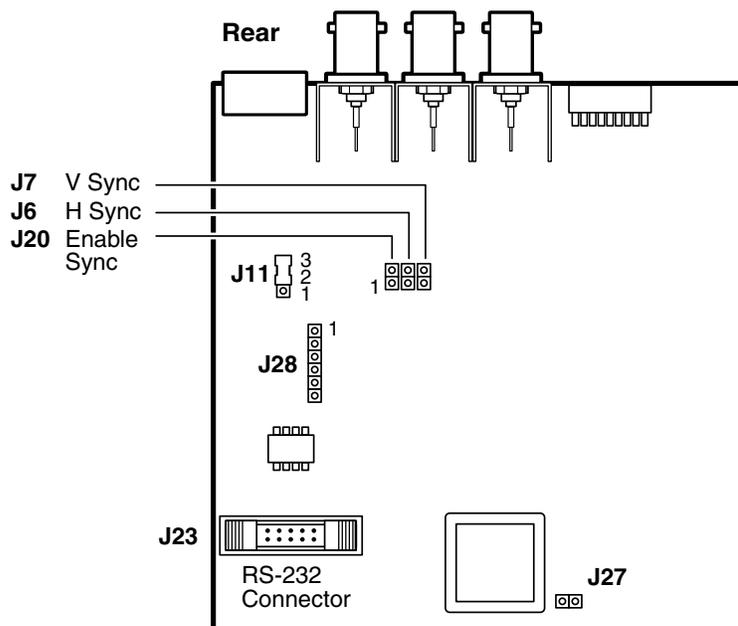

Figure 7. RGB 203 Rxi Internal Jumper Locations
3. Configure the interface as desired (see **“Sync Polarity Jumpers”** and **“Video Clamping Jumper”** below). Figure 7 shows all of the user-serviceable components.
1. Locate jumper blocks J6, J7, and J20 on the printed circuit board (see figure 7).
1. Locate J11 on the printed circuit board (see figure 7).